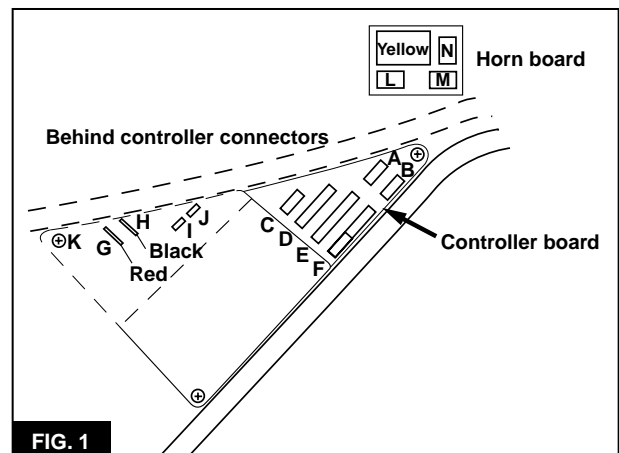

FIG. 1
All electrical components in the E-Bike™ are connected to the controller, which is mounted between the side covers. Refer to **Figure 1**. Except for the brake sensor connectors, which are interchangeable, each component's connector is mated. It can only be connected to its proper place in the E-Bike™.
3. Disconnect all the connectors (A-F, **Figure 1**) from the controller board.
6. Lift the controller from the E-bike™, disconnect the four connectors (G-J, **Figure 1**) from behind the controller, and then remove the controller.
- a. The red power connector (G, **Figure 1**).
- b. The black power connector (H, **Figure 1**).
- c. The motor connector (I, **Figure 1**)
- d. The horn-board connector (J, **Figure 1**).
- a. Brake-sensor connectors (A and B, **Figure 1**).
- b. Headlight connector (C, **Figure 1**).
- c. Taillight/brake-light connector (D, **Figure 1**).
- d. Accessory control connector (E, **Figure 1**).
- e. Throttle control connector (F, **Figure 1**).